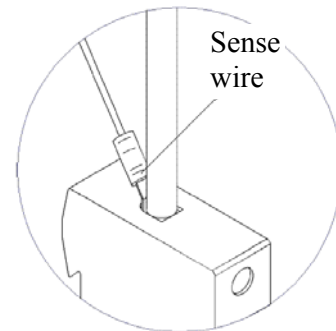

Figure 8. Load MCB
- (e) Fit the load cable into the top of the MCBs. Slide the alarm wire (blade crimp end) behind the load cable as shown in figure 8 and firmly tighten (screw) the tunnel terminal to hold both securely.